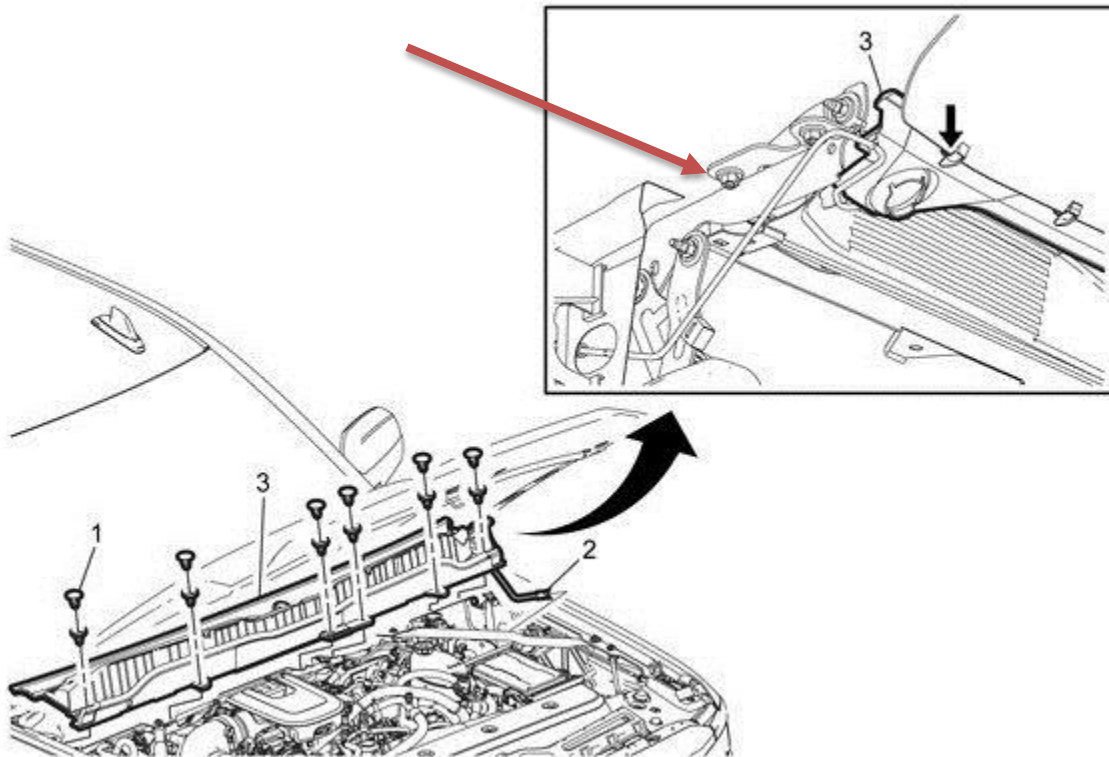

Fig 2.
- h. Remove the 6 plastic retainers labeled (1) in **Fig 2**.
- j. Disconnect the wiper fluid supply line from the wiper cowl labeled (2) in **Fig 2**.